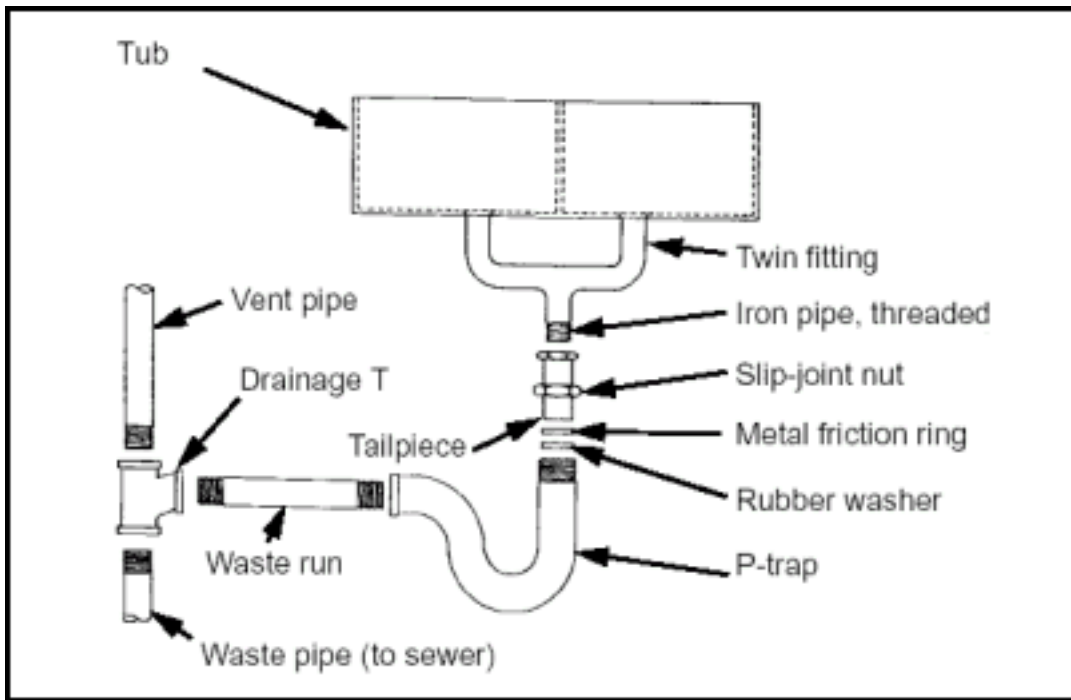

Figure 4-25. Laundry Tub Installation
4-59. Use the following steps and Figure 4-25, to install a tub (refer to Chapter 7 for faucet installation):
Step 3. Connect the P-trap to the tub as shown in Figure 4-25.